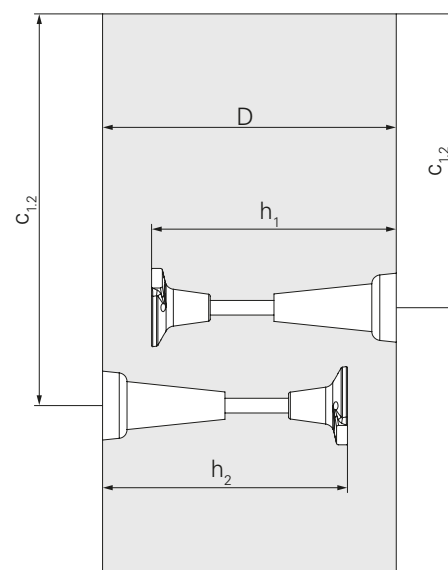

Fig. A3.06
- ⇒ For minimum edge distances  $c$ , minimum wall thickness  $D$  and other design requirements, refer to the separate PERI product information and the project-specific planning and do not go below these values. (Fig. A3.06)